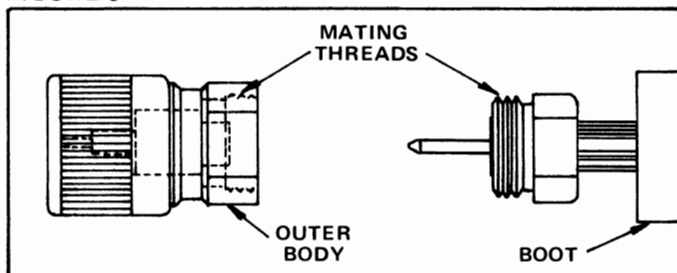

FIGURE 7
STEP 7. Slide outer body onto inner connector and screw it to clamping nut. Tighten connection. Turn outer body only; do not turn clamping nut. See Figure 7.